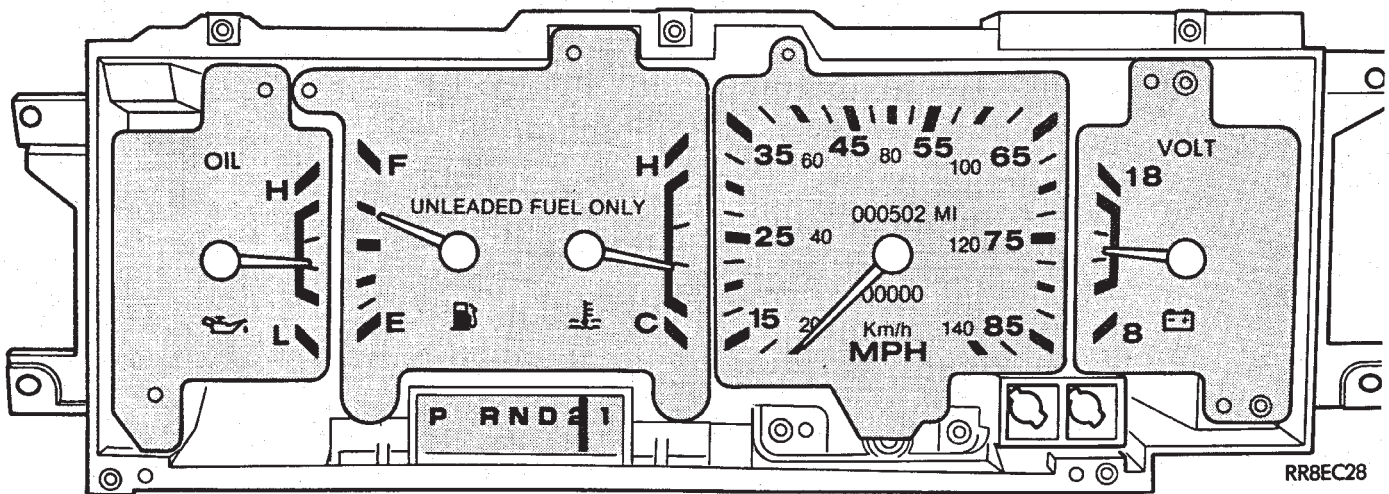

Fig. 22 Cluster with Mask and Lens Removed
(1) Remove cluster bezels and mask (Fig. 22).
(2) Remove screws attaching gauge assembly to cluster.
(3) Pull rearward to disengage gauge from gauge pins.
(4) For installation reverse above procedures.
(1) Remove cluster bezels and mask/lens (Fig. 22).
(3) Pull rearward to disengaged gauge from gauge pins.
(1) Remove cluster bezel and mask/lens (Fig. 22).
(2) Remove oil pressure gauge.
(3) Remove screws attaching gauge assembly to cluster.
(4) Pull rearward to disengage gauge from gauge pins.
(5) For installation reverse above procedures.